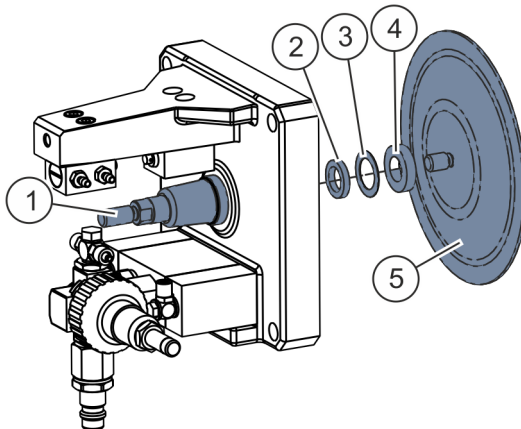

Fig. 11: Diaphragm
- 9.** ➔ Unscrew the diaphragm (Fig. 11/5) from the bolt (Fig. 11/1).
- 10.** ➔ Remove the slotted ring (Fig. 11/4), washer (Fig. 11/3) and felt flat seal (Fig. 11/2) and check for damage and wear. If necessary, replace parts.
- 11.** ➔ Oil the felt flat seal (Fig. 11/2).
1. ➤ Insert felt flat seal (Fig. 11/2), washer (Fig. 11/3) and slotted ring (Fig. 11/4).
2. ➤ Screw new diaphragm (Fig. 11/5) firmly onto the bolt (Fig. 11/1).